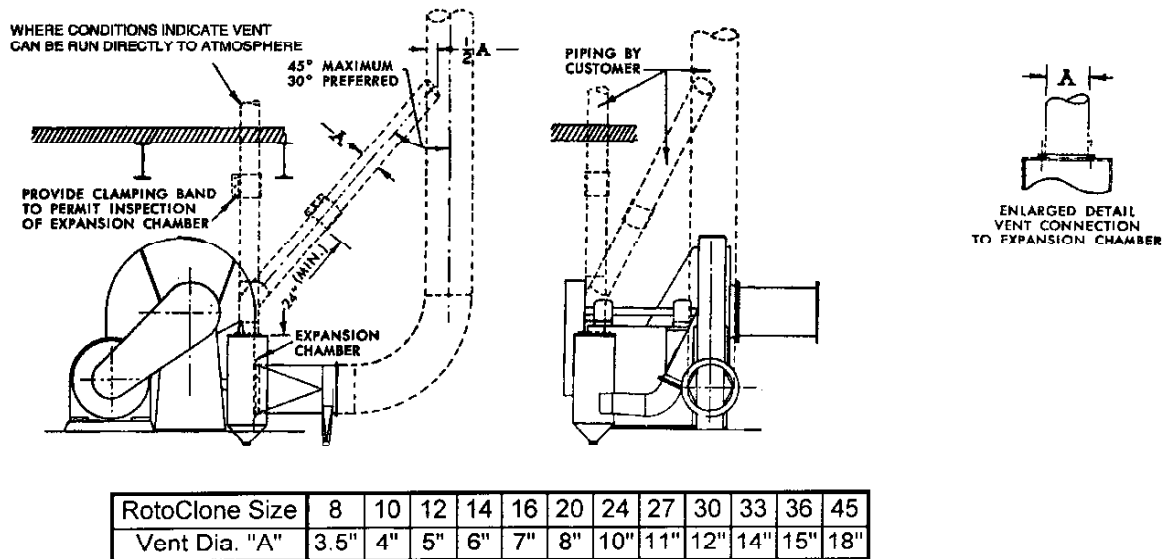

Fig. 3 - Expansion Chamber Venting Diagram
Inlet and discharge ducts must be supported from floor, wall or ceiling, and not by RotoClone. The joint between RotoClone inlet and exhaust main must be water-tight. Inlet duct should slope downward with bottom of duct no lower than bottom of RotoClone inlet. There should be at least four (4) duct diameters of straight run leading to the inlet of the RotoClone or performance may be impaired. Discharge duct should extend above roof line and should discharge the air vertically upward. It should be of same diameter as the RotoClone inlet and seams **must** be soldered or welded **water-tight**. A gasket (not furnished) should be placed between the outlet connection and the discharge duct to make joint water-tight. A weather hood is not required. Expansion chamber should be vented per Fig. 3, where recirculation of discharge air is not permitted.